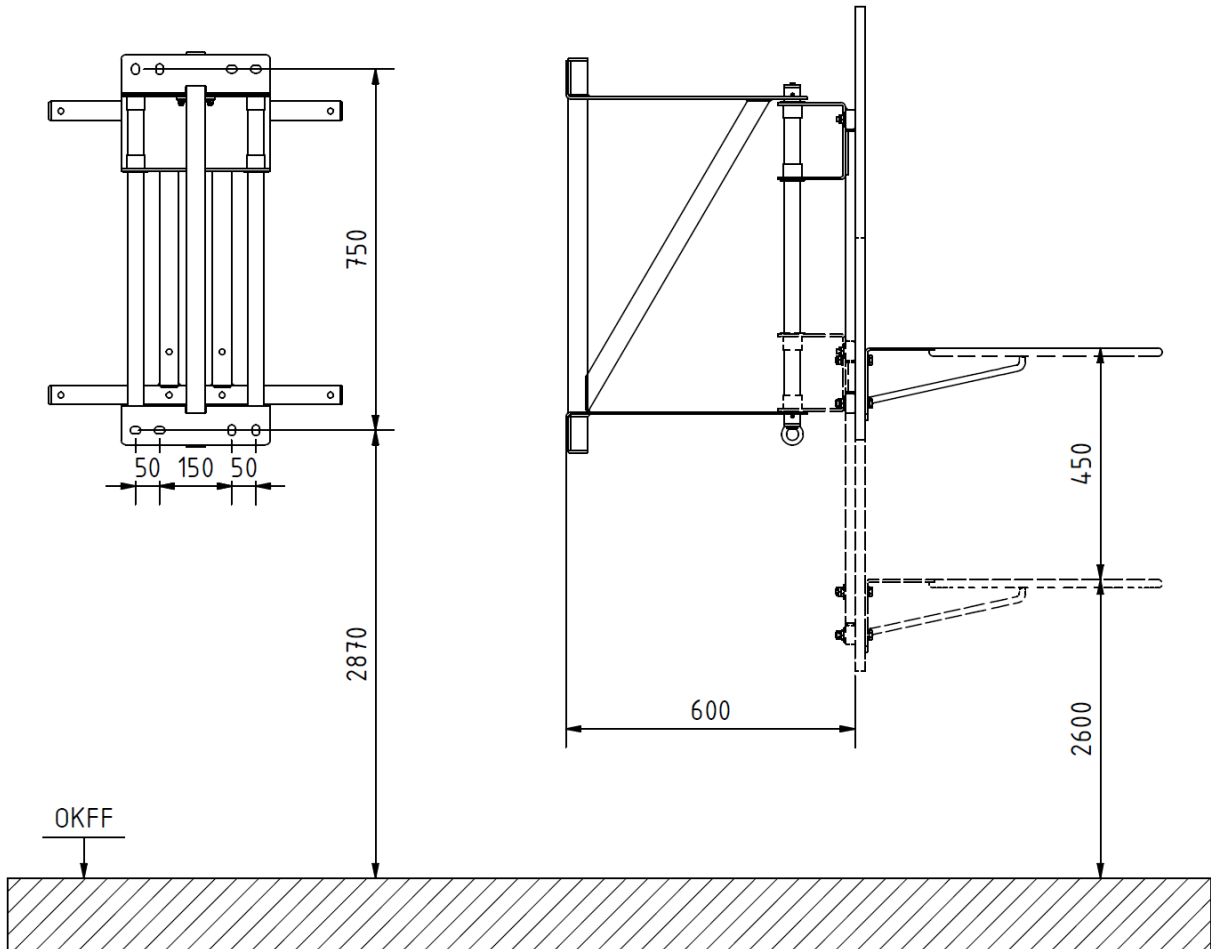

Figure 3: Borehole dimensions for wall mounting (in mm)
Attach the basketball mount ① to the wall using suitable fixings and following the borehole dimensions shown in figure 3.